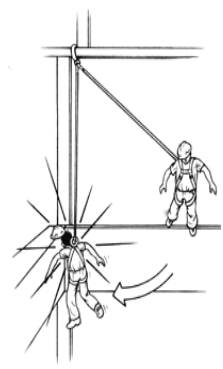

Figure 2
The mechanism in this device is activated by centrifugal force acting on the brakes. This action is produced by the inertia of a fall rapidly spinning the internal drum which in turn causes the brakes to lock and arrest the fall. Slow reeling of the line will not activate the brake. If the brake locks – due to a fall – the mechanism will reset if the load is removed. In a fall arrest situation the mechanism will limit the force acting on the body to less than 6kN. This device is designed to function vertically or at an angle of no more than 30° (see Figure 2).
2. Failure to comply with the instructions for use will result in a danger to life. (Figure 2) In the event of a fall, the person must not be exposed to a prolonged state of hanging for longer than 20 minutes (danger of shock).